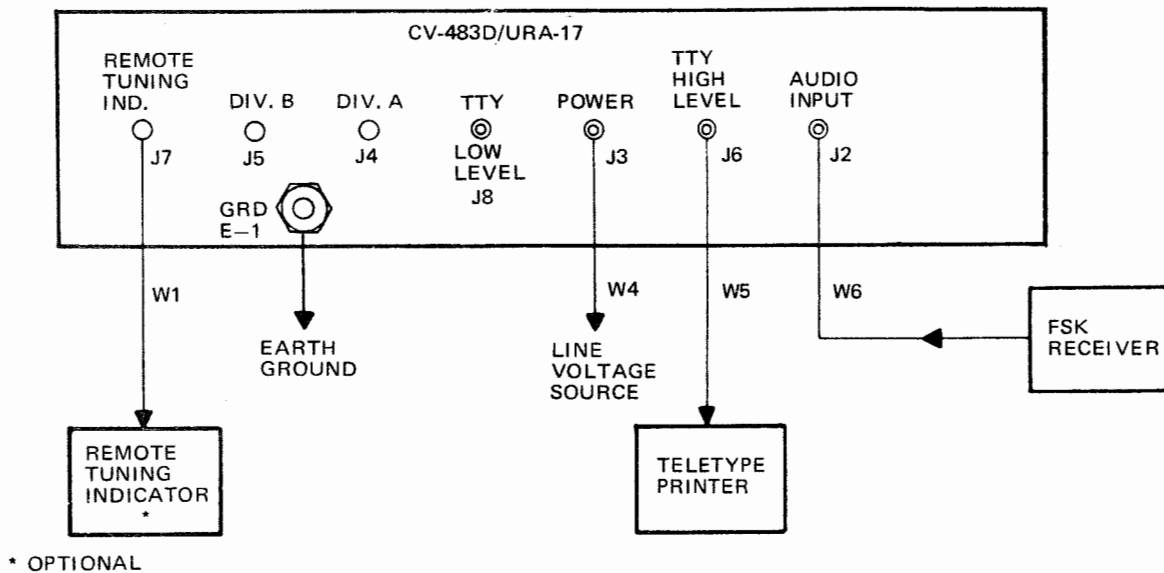

Figure 2-4. Frequency Shift Converter CV-483D/URA-17, Interconnecting Data for Single-Receiver Operation
(1) INTERCONNECTING CABLES FOR SINGLE-RECEIVER OPERATION. - Table 2-1 lists the required cable and connector information for single-receiver operation of one converter. Figure 2-4 illustrates the interconnection to associated equipment.
\* Use in conjunction with figure 2-4.